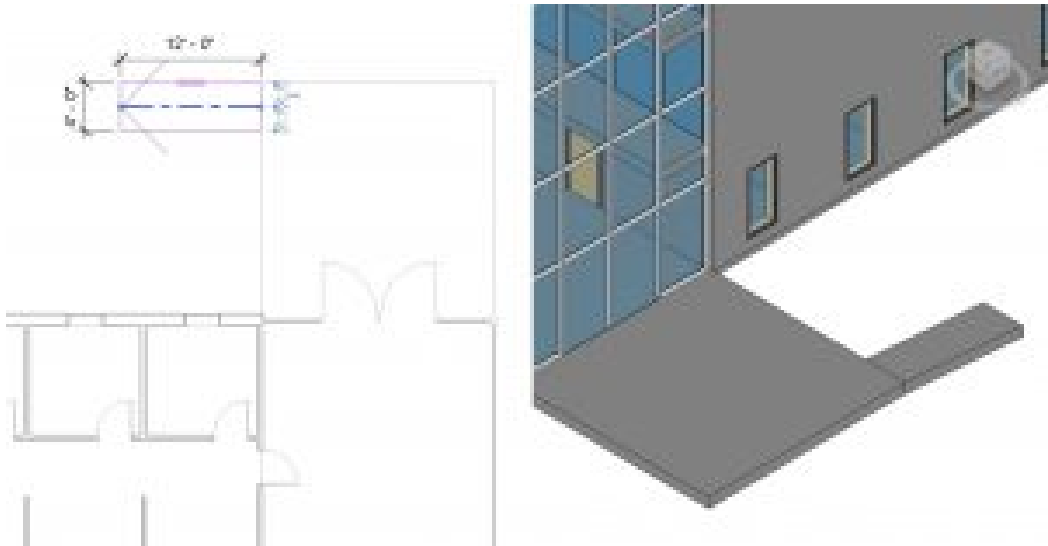

Figure 3.12 Sloped floor plan shown in plan view and 3D view
4. Create a 4' 0" X 12' 0" floor using the line tool  as shown in Figure 3.12